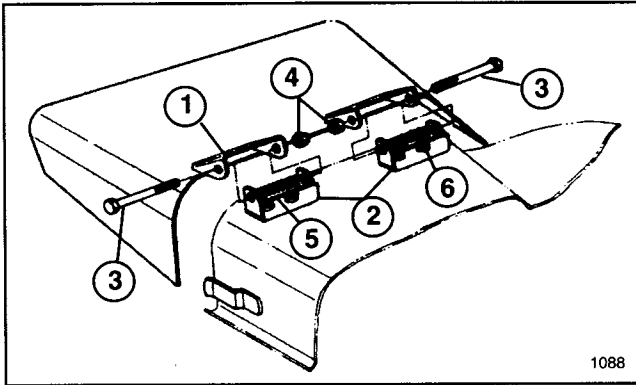

Figure 21
1. Remove bolts, lock nuts and springs securing deflector mounts to pivot bracket (Fig. 21).
2. To remove pivot brackets, remove carriage bolts and nuts (Fig. 21).